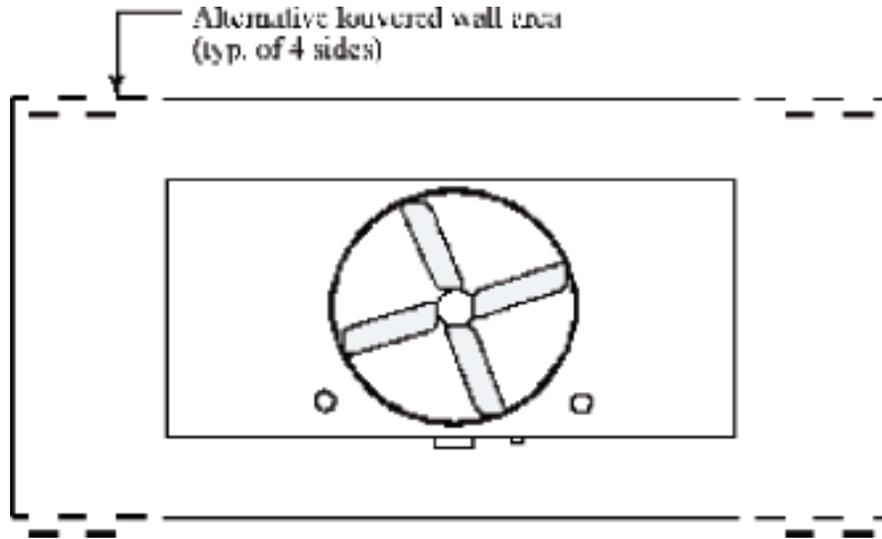

Figure 5: Plan view of single air inlet unit in enclosure with alternate louver arrangement
- c. If the available space does not permit the unit can be arranged with the air intakes facing the louvered or slotted walls and the enclosure cannot be modified to permit such an arrangement, consider the alternative illustrated in Figure 5. This arrangement should be restricted to one-cell or two-cell installations. The effective area of the louvers is only the length extending beyond the width of the tower.